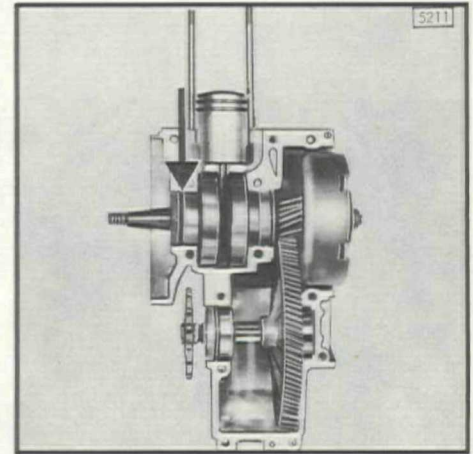

Fig. 23
**CAUTION:** Oil seal lips must be greased. Oil seals must be fitted straight. Ensure sufficient gap between magneto side bearing and oil seal to allow oil flow to bearing (see arrow, fig. 23).